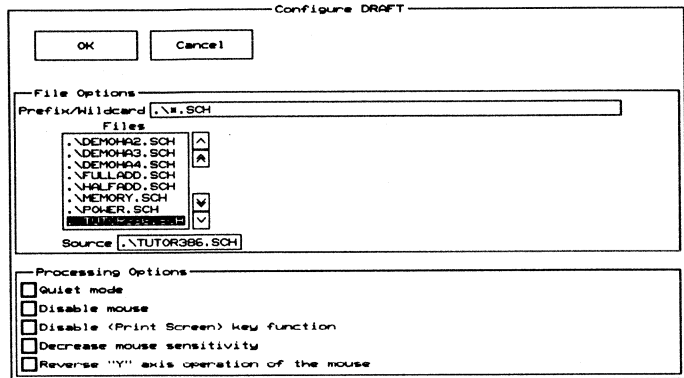

Figure 3-5. The *Configure DRAFT* screen.
2. Select **Draft**, then select **Local Configuration** from the menu and select **Configure DRAFT**. The **Configure DRAFT** screen displays (figure 3-5).